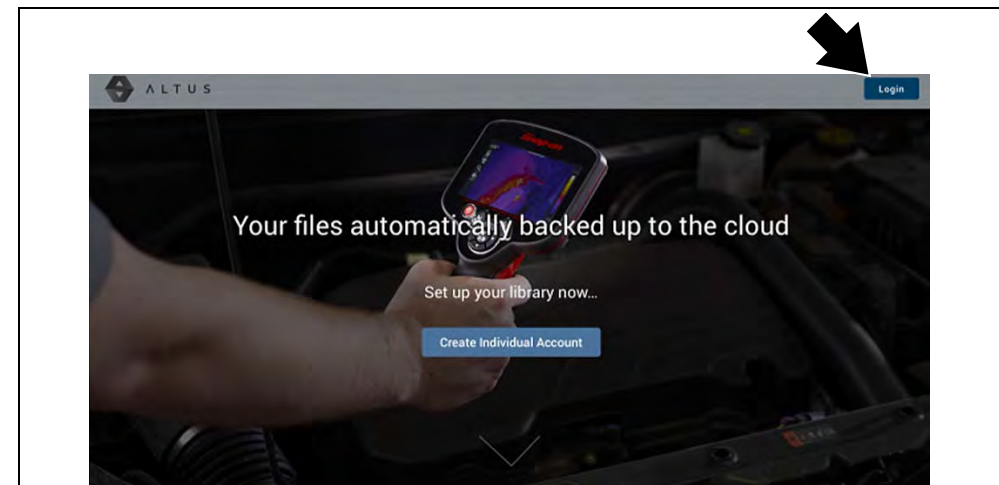

Figure 15-3
2. Select the **Login** icon (Figure 15-3).